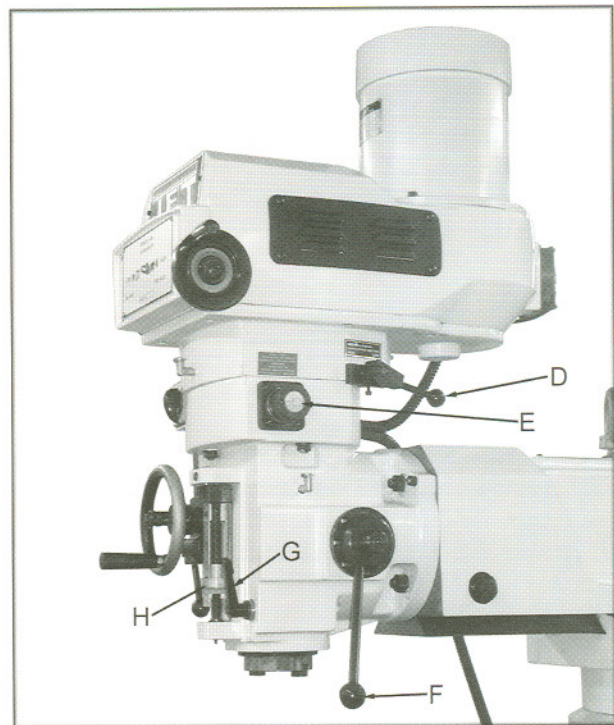

Fig. 4
- D. **High-Neutral-Low Lever** (D, Fig. 4) - located on the right side of the head. The photo shows the lever in the low speed range. Push the lever in and rotate 90° clockwise for neutral. Rotate the lever another 90° for the high speed range.
- E. **Power Feed Transmission Engagement Knob** (E, Fig. 4) - located on right side of head. When pointer indicates towards the rear of the machine, power feed worm gear is engaged. To disengage power feed, turn so pointer indicates towards the front of the machine.
- F. **Quill Feed Handle** (F, Fig. 4) - located on right side of head. Rotate counter-clockwise to lower spindle.
- G. **Quill Lock** (G, Fig. 4) - located on the right side of the head. Rotate the handle clockwise to lock the quill in a desired position. Rotate the handle counter-clockwise to release.
- H. **Micro Adjusting Nut** (H, Fig. 4), - located on the front of the head. Use for setting specific spindle depth.